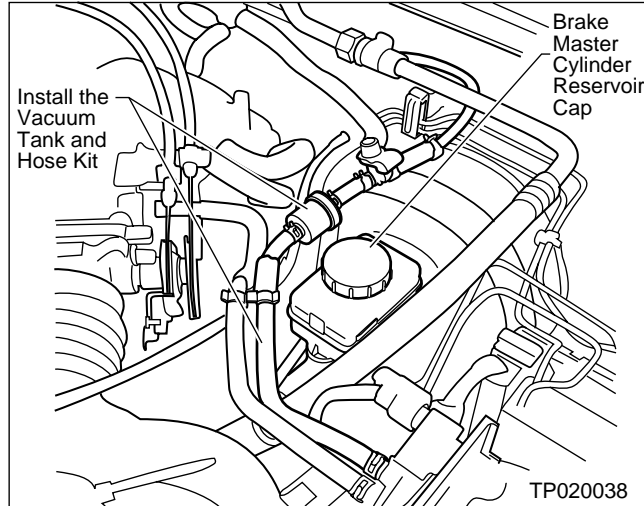

Figure 3
7. Install the Vacuum Tank and Hose Kit listed in the PARTS INFORMATION section (see Figure 3).